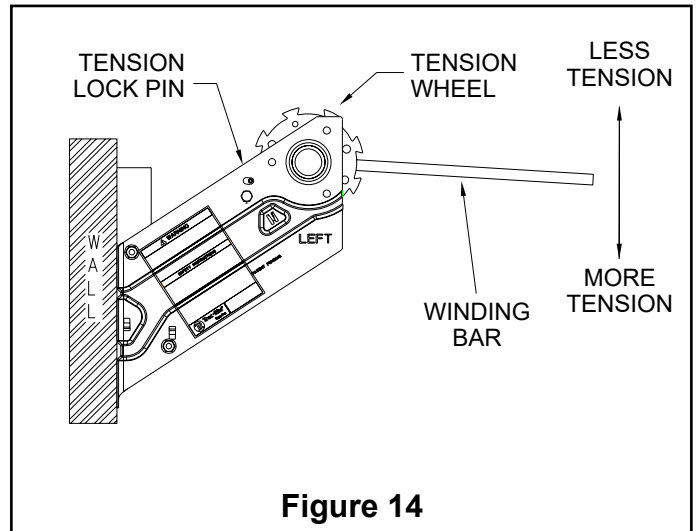

Figure 14
**10.2** To add tension, insert winding bar in the rectangular hole in the tension wheel and pull down until ratchet clicks. Move up slightly until ratchet locks in place (See Figure 14). If more tension is needed, move winding bar to the next hole in the tension wheel and repeat as necessary.